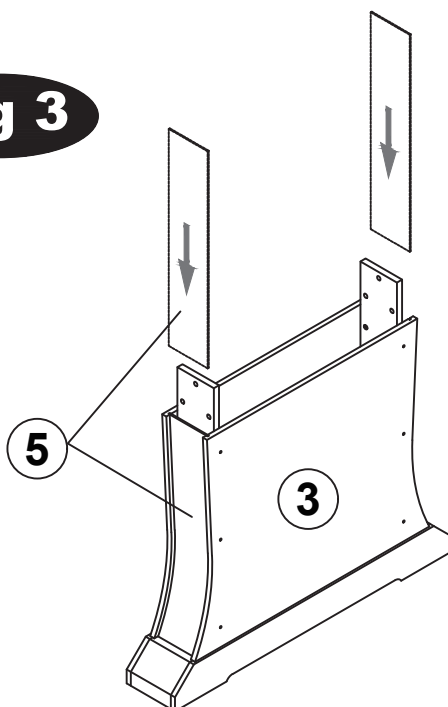

Fig 3
5. Slide the Leg Trim Panel(5) into the groove on the Leg Panel (3) . See FIG. 3.